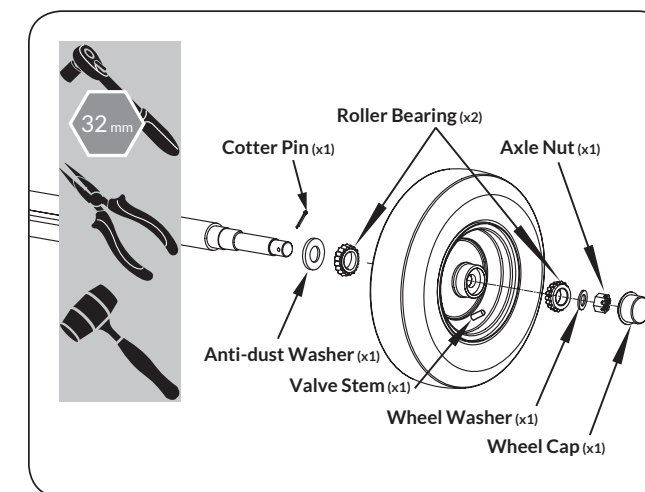

Figure 7c
4. Slide the wheel with the valve stem facing out to the wheel axle and the other roller bearing, then put the wheel washer against the bearing. Use a 32mm socket to tighten the axle nut completely. (See **Figure 7c**)